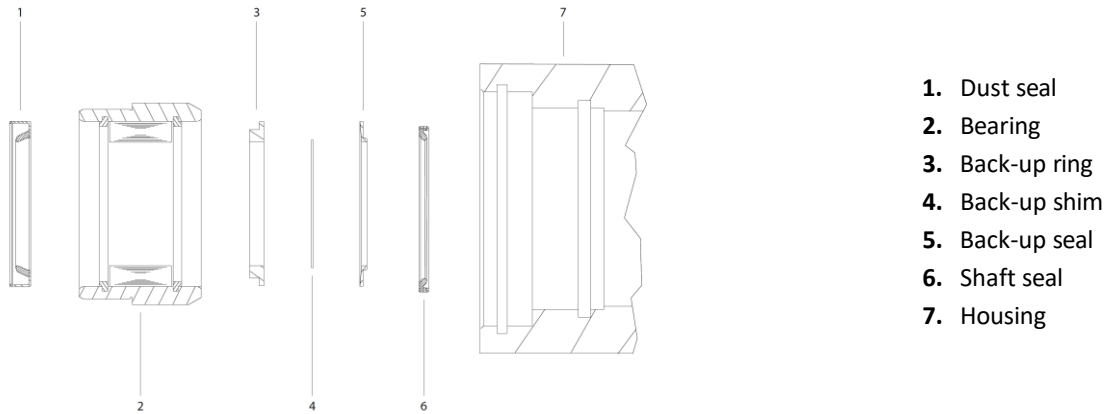

Figure 1: RE 530 R Mount Shaft Stack-up
3. Install high pressure seal (2) into groove in pilot of housing (14). Place shaft (26) on a clean, flat surface with output end facing up. Place thrust washer (12), thrust bearing (13) and second thrust washer (12) over shaft (26). Being careful not to cut seal on keyway, place shaft seal (5) over shaft (26) making sure that lip on seal faces down (see figure 1). Repeat process for backup seal (4) making sure that lip faces